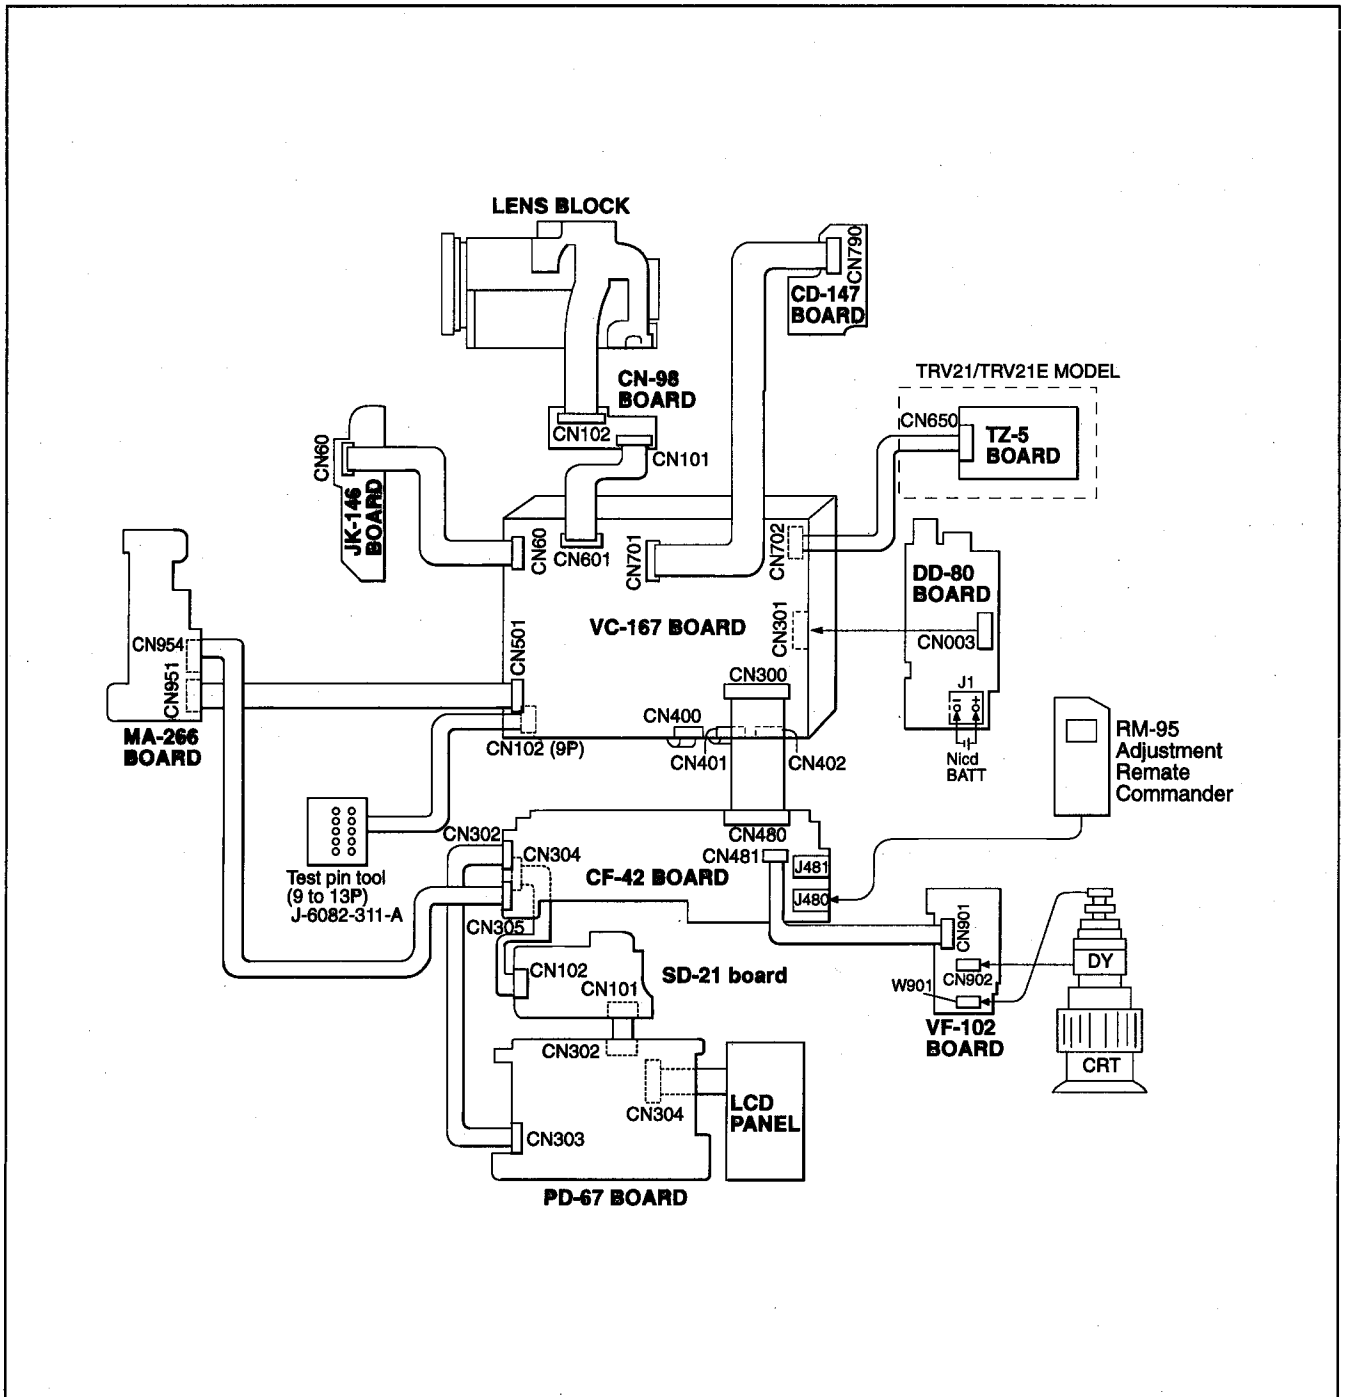

Fig. 6-1-5.
1) Connect the adjustment equipment as shown in Fig. 6-1-5.